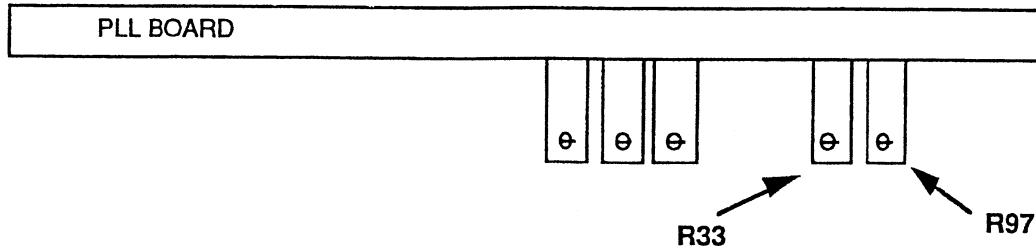

Figure 4-5. R33/R97 Locator
4. If the reading is > -50 dB, set the scope controls to display the distortion analyzer output. Slide the cover back. Adjust R33 (figure 4-5) until waveform peaks are clearly visible in the residue.
Adjust R97 (figure 4-5) until waveform peaks are symmetrical, one above the average value of the residue signal and one below.